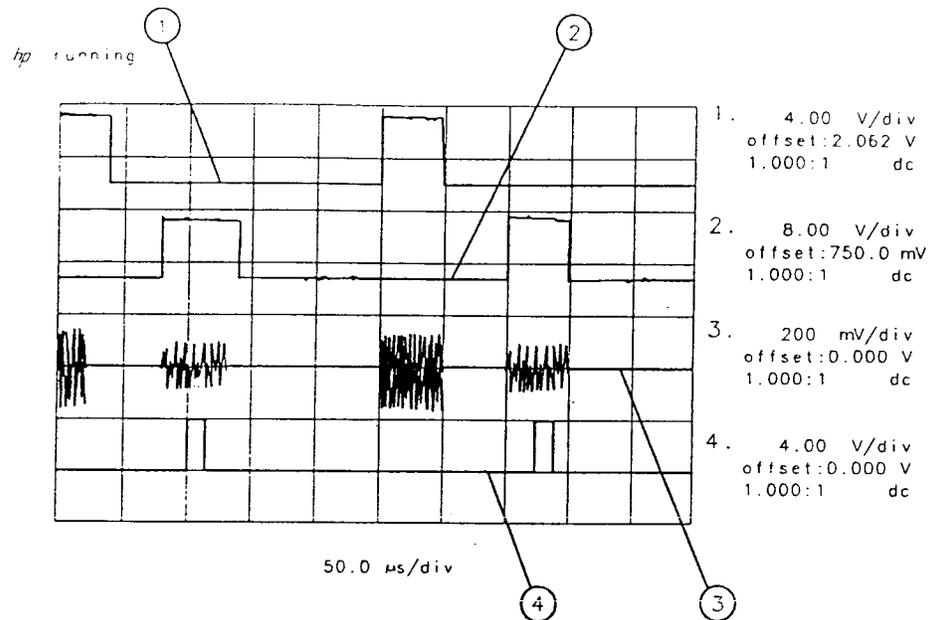

Figure 2-61. Placing the Gate Output During the Second Signal
- To view the second signal, change the gate delay so that the gate output is under the second signal. Since the second signal had a signal delay of approximately  $85 \mu\text{s}$ , we set the gate delay to  $85 \mu\text{s}$  plus the pulse width/2, or  $110 \mu\text{s}$ . Press **[SWEEP]**, **GATE MENU**,  $110$  **[ $\mu\text{s}$ ]** to set the gate delay to  $110 \mu\text{s}$ . Using an oscilloscope can be helpful in placing the gate output during the pulsed signal. See Figure 2-61.